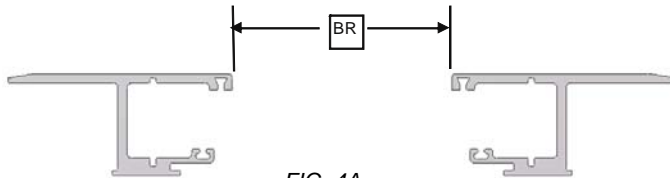

FIG. 4A
Finally, check for proper spacing by measuring between the rails at the canister and the tailgate end of the rails (Fig 4A). The measurements should be equal to or less than those in Fig 4B. The Rail Brackets and Shims have been pre-installed to achieve the proper Between the Rail dimension (BR) when placed on an average factory truck bed. However, not all truck beds are average dimensionally and some have optional plastic caps or over the rail spray-in